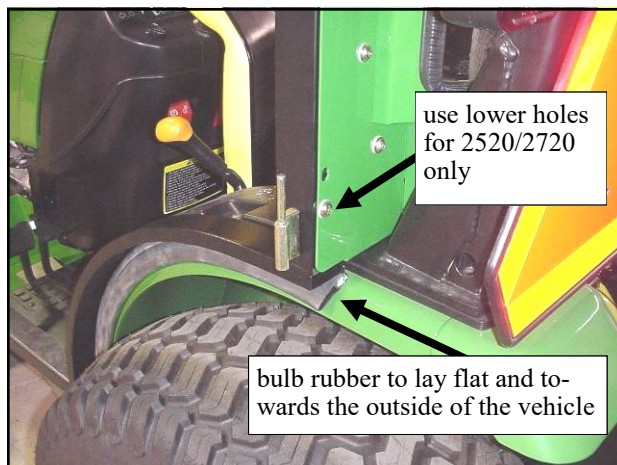

Fig. 4.5 View from left side of vehicle
4.5 With assistance, position the side frame onto the vehicle. See fig. 4.5. Use a Phillips head screwdriver to puncture the weatherseal on the rear legs so that bolts can pass through. Only pierce the holes that line up with the factory installed threaded inserts in the back of the side frames for your particular model. Model 2320 uses the top holes. Model 2520/2720 uses the bottom holes. Use the following hardware: three 5/16-18 x 3/4" long button head bolts, 3 steel washers, and 3 plastic washers per side frame. Leave out the top bolts for 2320 only. **On model 2320 only**, be sure the 5/8" thick nylon spacer is in place under the floorboard hole in the side frame. Install the new, longer M8 x 1.25 x 45mm long bolt and washer provided. Do not tighten any of these bolts. **On models 2520/2720 only**, the single floorboard hole on the side frame on each side does not get used.